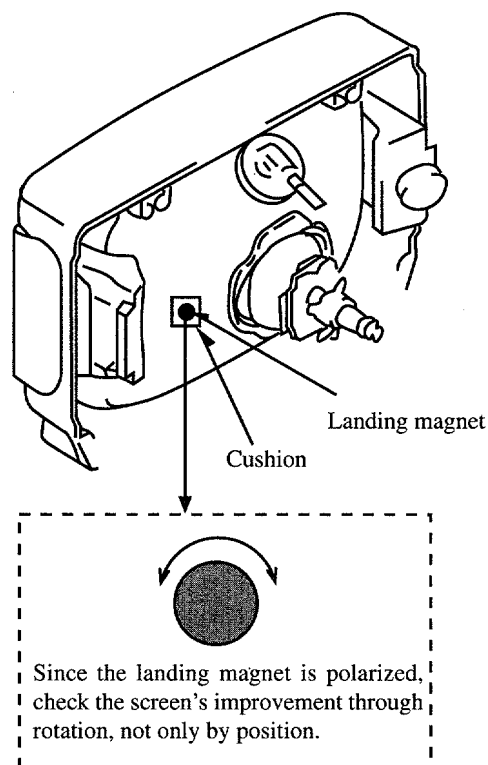

Fig 1-6
- ✱ If the color irregularity in the screen's corner section are not improved, correct them with the landing magnet. After using the landing magnet, be sure to demagnetize the CRT with degausser and verify that there is no occurrence of color irregularity. (refer to Fig. 1-6)